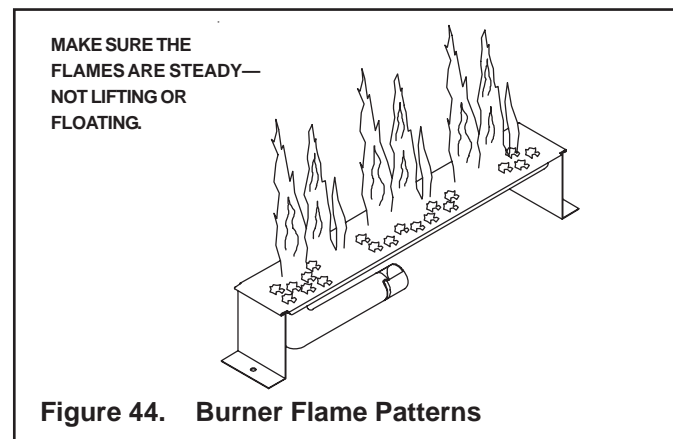

Figure 44. Burner Flame Patterns
**Task:** Make a visual check of your fireplace's flame patterns. Make sure the flames are steady - not lifting or floating. See Figure 44. The thermopile/thermocouple tips should be covered with flame (See Figure 32).